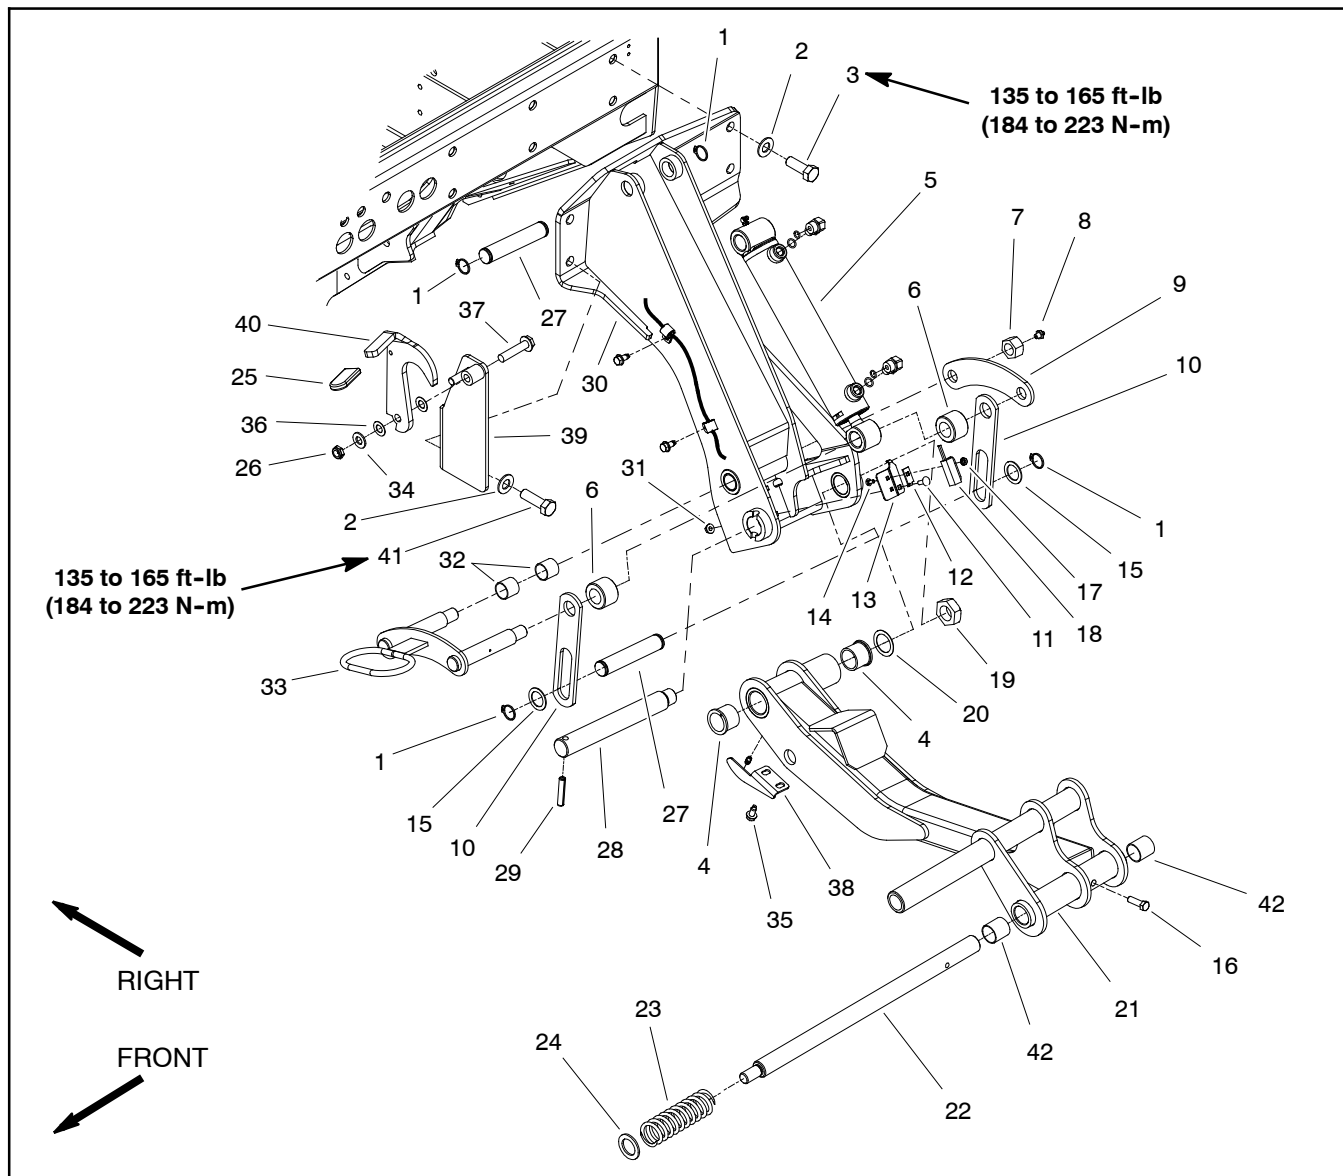

Figure 15
### Removal (Fig. 15)
3. Remove pin (item 27) that secures lift links (item 10) to lift arm.
4. Loosen and remove lock nut (item 19) from pivot pin (item 28).
5. Support lift arm and pull lift arm pivot pin from lift arm and support arm. Locate and remove thrust washer (item 20) from rear of lift arm during pivot pin removal.
7. Disassemble lift arm as needed using Figure 15 as a guide.
### Installation (Fig. 15)
1. Assemble lift arm using Figure 15 as a guide.
2. Position lift arm to support arm. Fit thrust washer (item 20) between rear of lift arm and support arm. Slide pivot pin into support arm and lift arm. Align roll pin in pivot pin with slot in support arm flange.
3. Install and tighten lock nut (item 19) to secure lift arm pivot pin.
4. Secure lift links (item 10) to lift arm with pin (item 27). Make sure that thrust washer (item 15) and retaining ring (item 1) are on both ends of pin.
**NOTE:** Install compression spring (item 23) and thrust washer (item 24) on carrier pivot pin before installing cutting deck on pivot pin.